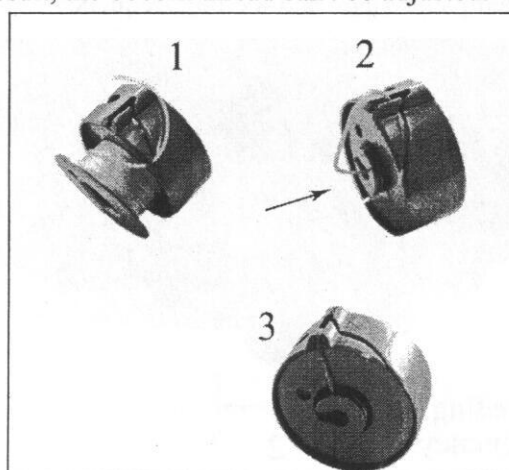

Fig.4
- (1) The bobbin thread is threaded according to the order ①-③ illustrated in Fig.4